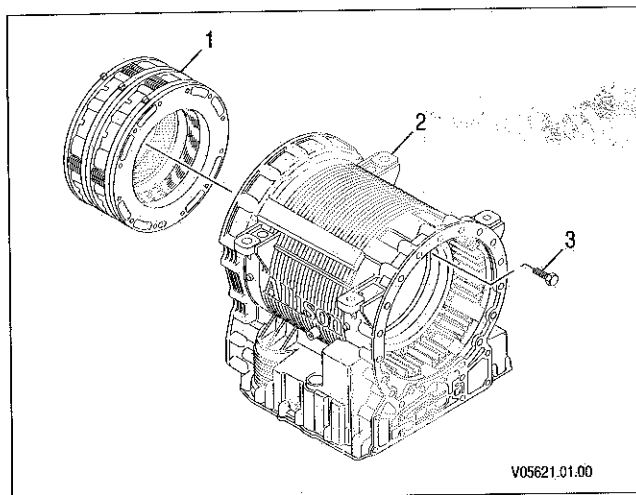

Figure 6-1. C3/C4 Clutch Module Installation
4. Install C3/C4 clutch assembly 1 (Figure 6-1) through the input end of main housing 2, aligning the tabs on the clutch assembly with the slot in the main housing.